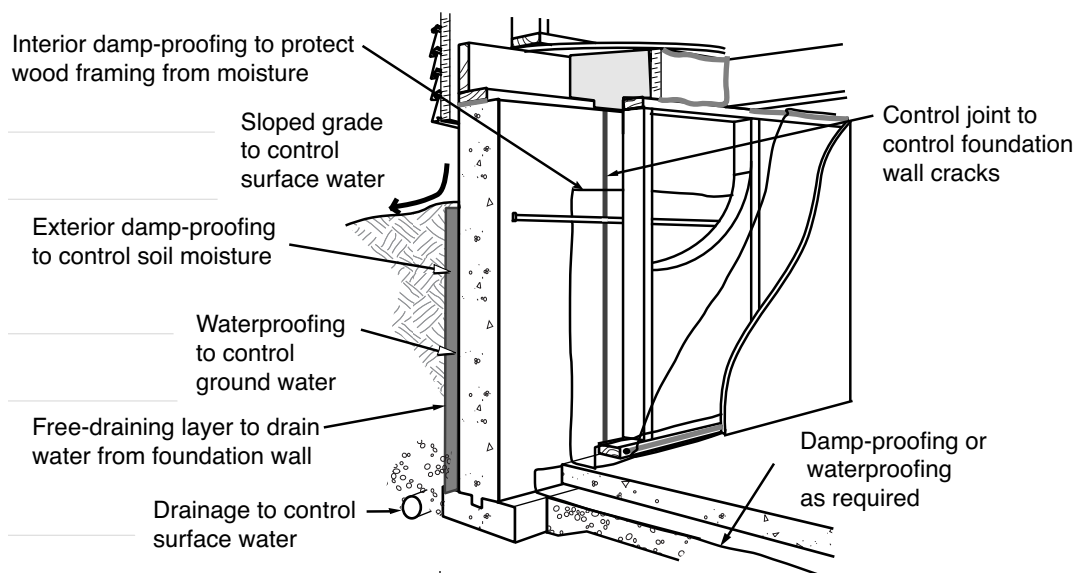

FIGURE 12
- Apply moisture-control principles when constructing the foundation to reduce moisture input from surrounding soils (see Figure 12). Refer to Chapter 1, "Foundations."
- ◆ Provide dehumidification through better ventilation and by controlling the operation of bathroom exhaust fans with a dehumidistat set at 45 percent relative humidity (RH) or less. Ensure that the fan is capable of continuous mechanical operation and has a low noise rating. Provide tempering for make-up air.